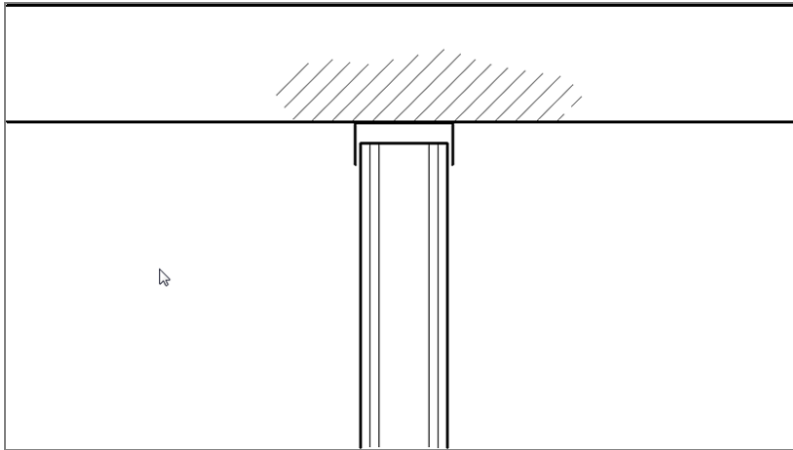

FIGURE 12.62: The detail with the hatching included
If you would like to venture out on your own, try to duplicate Figure 12.62. You'll need to add a filled region using diagonal lines. If you would rather follow the procedure, let's get started:
9. Click Finish Edit Mode on the Mode panel. Your pattern should look like Figure 12.62. (Remember, the loop must be completely closed, with no gaps or overlaps.)